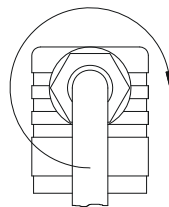
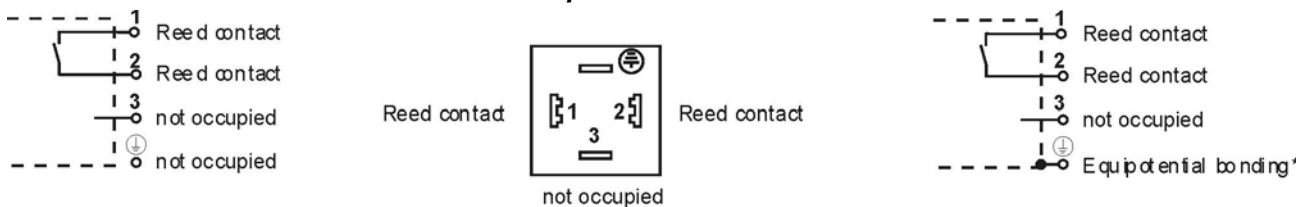

Fig. 11
Fig. 13 * To prevent electrostatic charging the VHS...X devices have to be connected to the equipotential bonding via the plug connector.
- Connect the wires as displayed in the connection diagram (→ Fig. 13).
- Press the core ③ into the cable socket ② until it locks into place.
- Put the central screw ⑥ in the cable socket ② and tighten the screwed cable gland ⑤ M16x1,5 (→ Fig. 11).